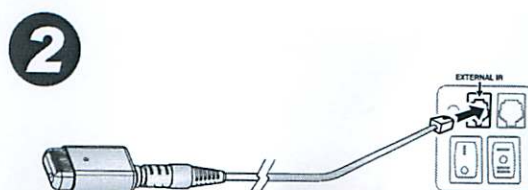

Figure 2
2. Connect the external IR insert to the " External IR " slot on the screen's control panel (Figure 2).